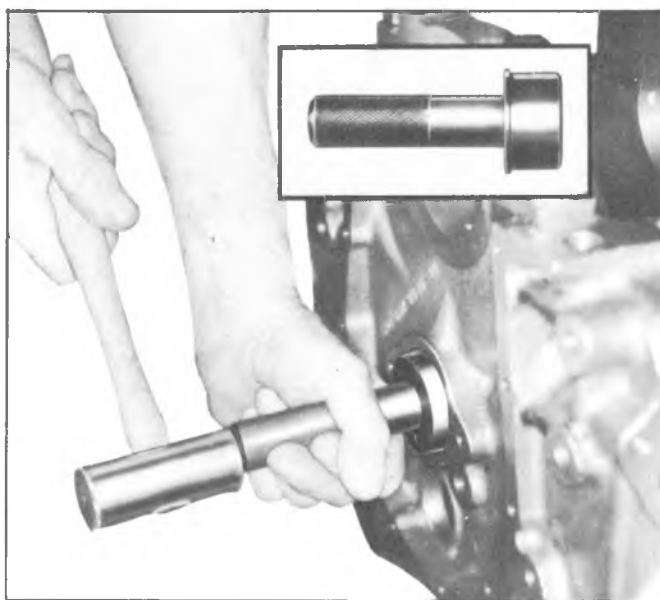

Fig. 6A-50V-Replacing Camshaft Front Bearing
4. Using two wrenches, hold puller screw while turning nut. After bearing has been pulled into bore, remove the remover and installer tool from puller screw and check alignment of oil hole in camshaft bearing (fig. 6A-49V).